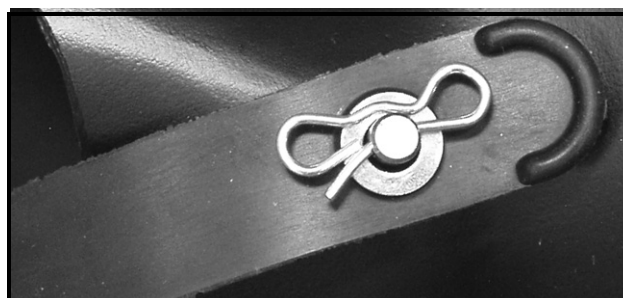

FIGURE 4
4. Using the Clevis Pin, Item 4, Flat Washer, Item 3, and the Bow-Tie Clip, Item 5, assemble the strap to the elbow discharge chute as shown in Figure 4.